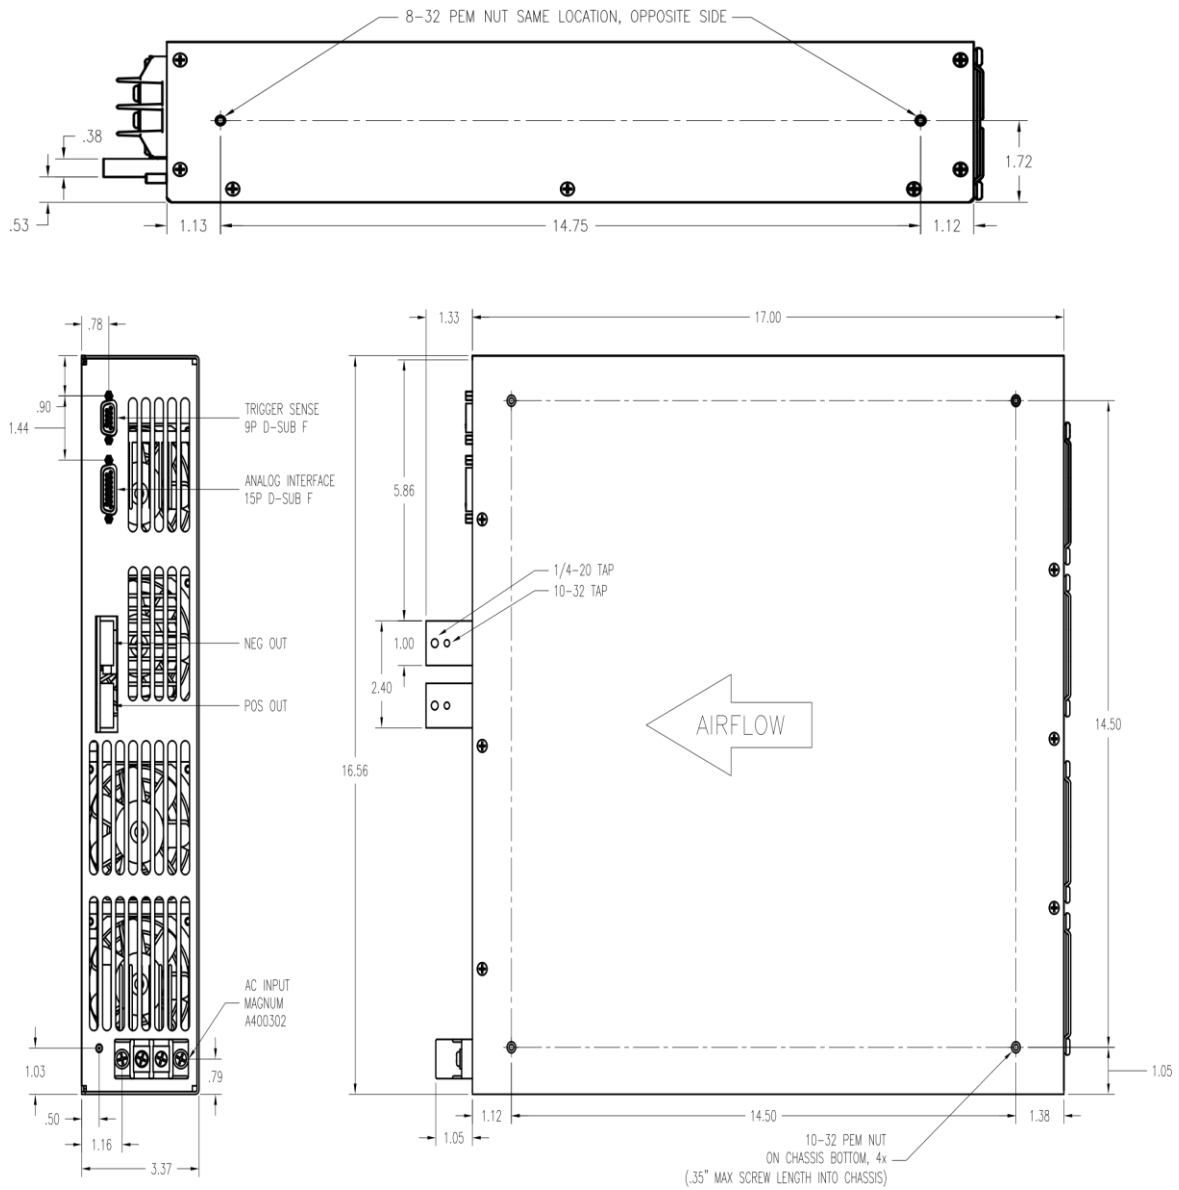
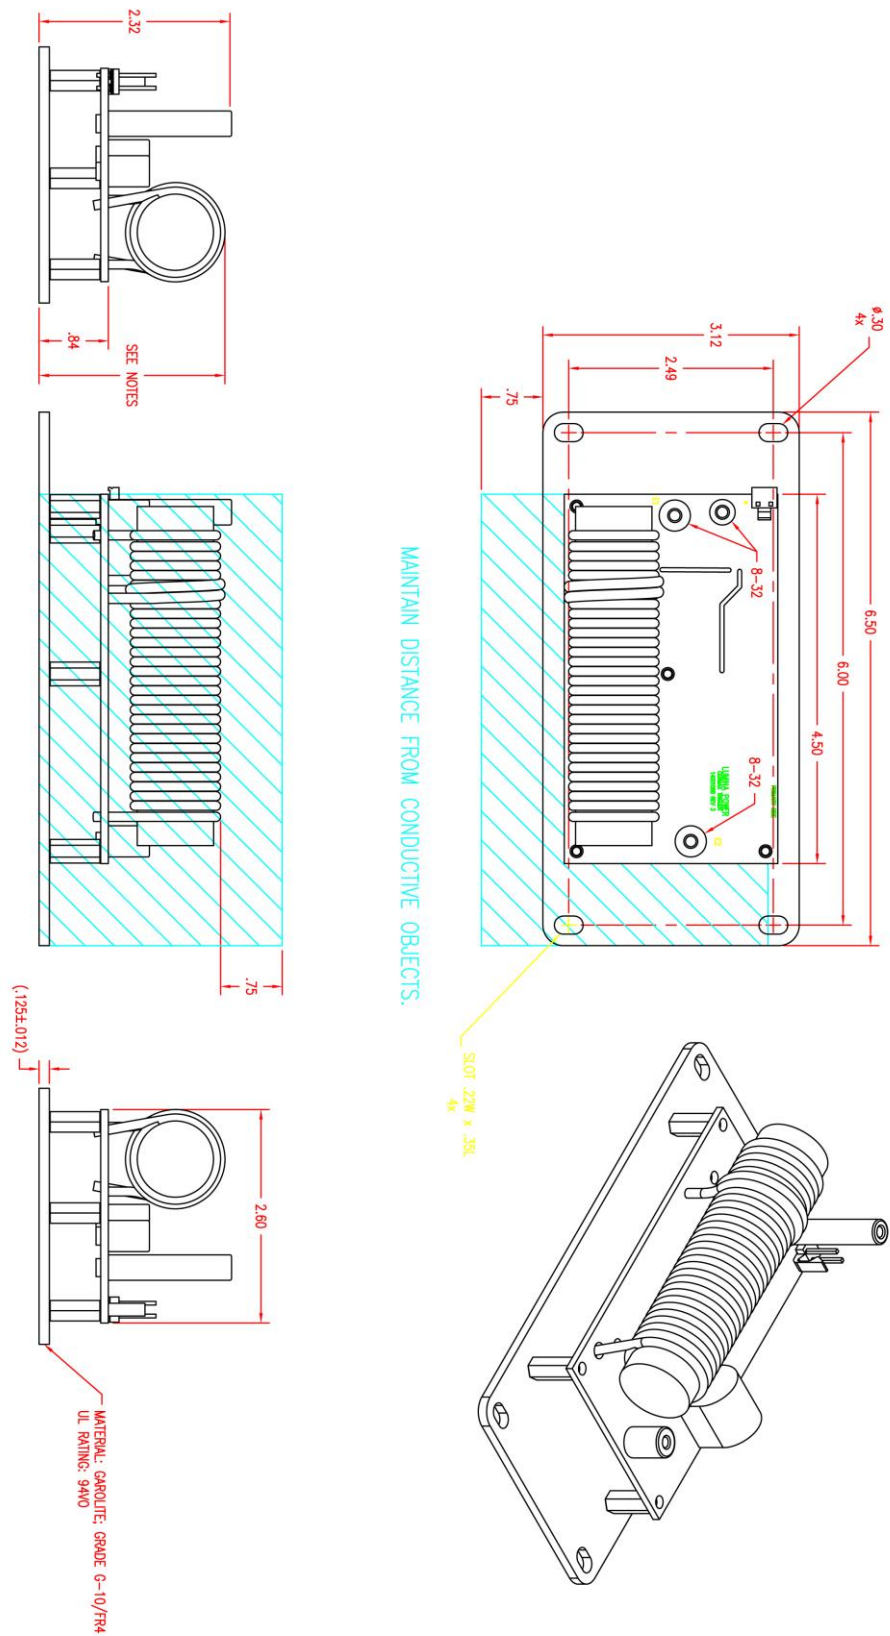

Figure 2
Figure 3
The XLB-3000 chassis is rack mountable and is shown in figures 2 and 5. The XLB-3000 Igniter Module has a mounting plate shown in Figure 3.
- Please refer to Figure 3, XLB-3000 Igniter Outline Drawing, for information regarding required clearances around the high voltage igniter coil.